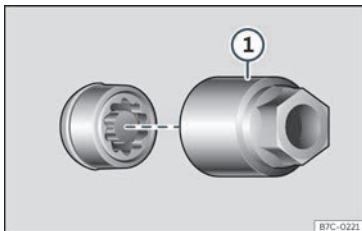

Fig. 31 Anti-theft wheel bolt with cap and adapter.
- Insert the special adapter >>> **Fig. 31** ① (vehicle tools >>> page 38) onto the anti-theft wheel bolt and push it on as far as it will go.